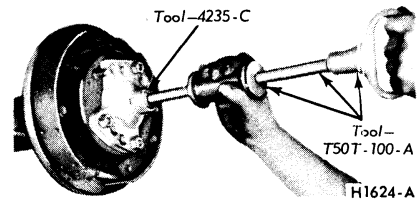

FIG. 11 Axle Shaft Removal
2. If the rear backing plate is being removed, rotate the axle shaft so that the hole in the axle shaft flange aligns with the backing plate retaining nuts, then remove the nuts. Pull the axle shaft assembly out of the housing with tool 4235-C, and a slide hammer tool T50T-100-C, (Fig. 11). Lift off the backing plate.